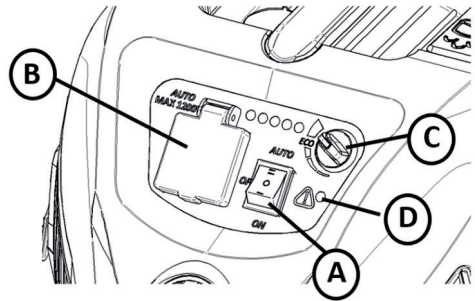

Fig. 10
When the machine is equipped with the semi automatic cleaning system, the filter can be cleaned by closing the inlet of the handtube (A). However, first turn the machine to max. power if equipped with power control (see figure 10).